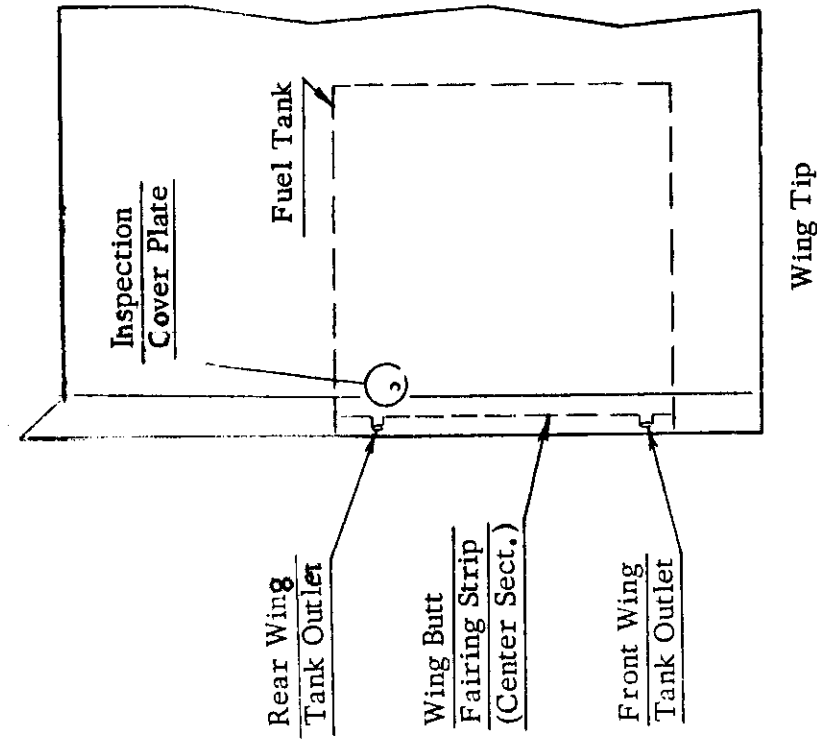

FIG. 1
3. Remove Inspection Cover Plate — See Figure 1.
4. Remove Wing Butt Fairing Strip—Center Section Only—See Figure 1.
Extreme care should be taken when disconnecting the gas lines from the wing tank so that the line does not kink or twist and break off. See Figure 1 and Figure 2.